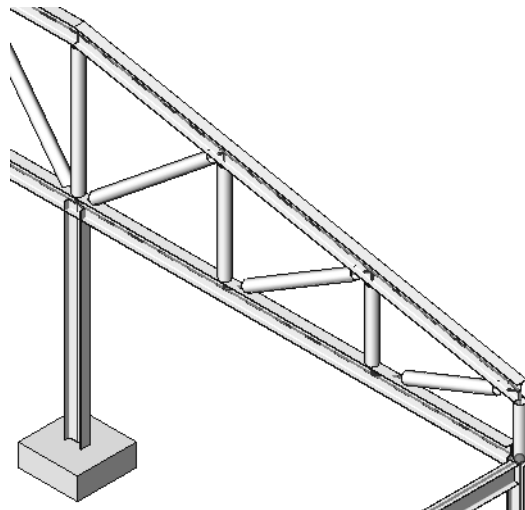

Figure 7-74
5. Where do you assign the structural member types and sizes for the components of a truss, such as that shown in Figure 7-74? (Select all that apply.)